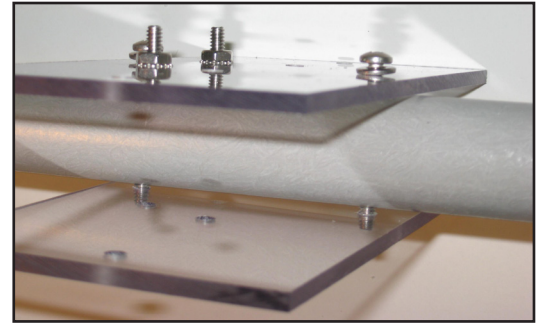

Fig. 41
- Select another Element Mounting Plate and position on the bottom of the Boom End Sub-assembly, passing the screws from the previous step through the bottom Element Mounting Plate as shown in Fig. 41. Then place a No. 10 SS Flat Washer over each screw and fasten each with a 10-24 Stainless Steel Anti-vibration Hex Nut. Tighten both fasteners well.